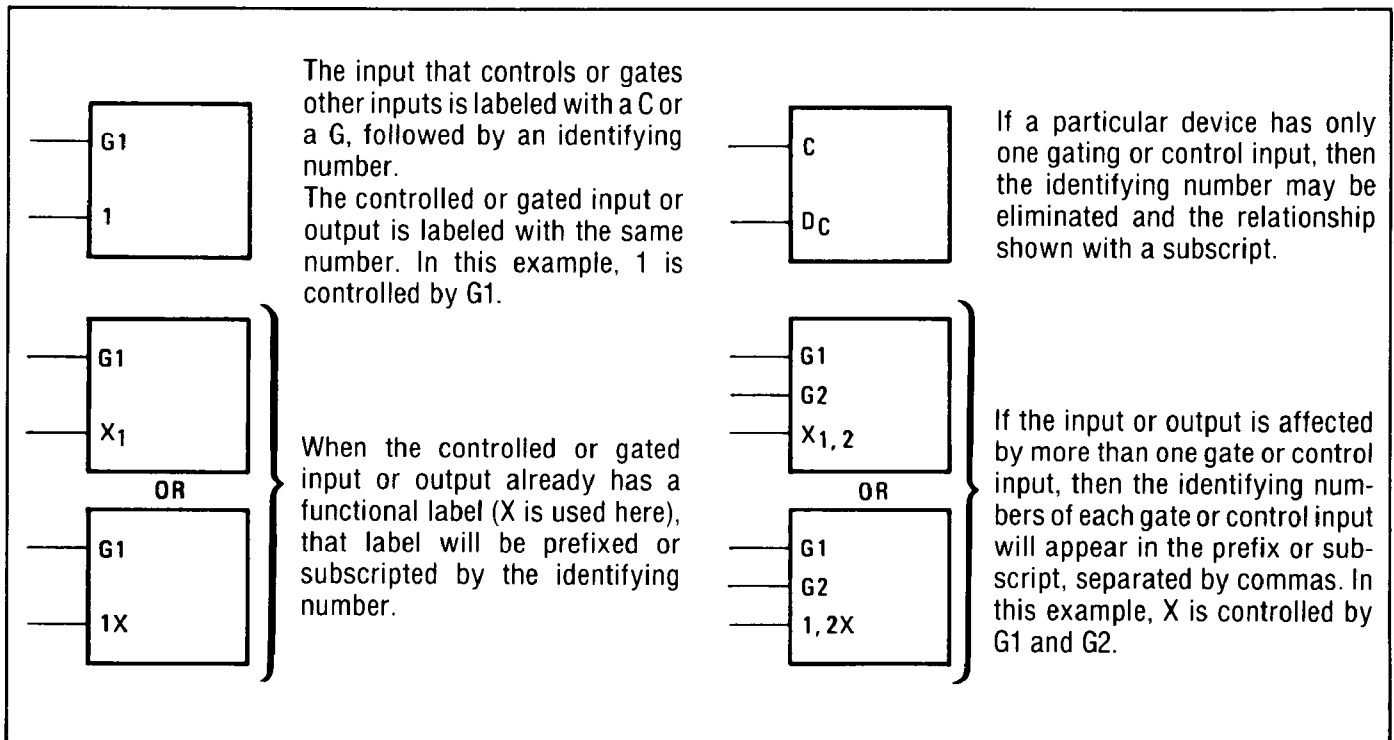
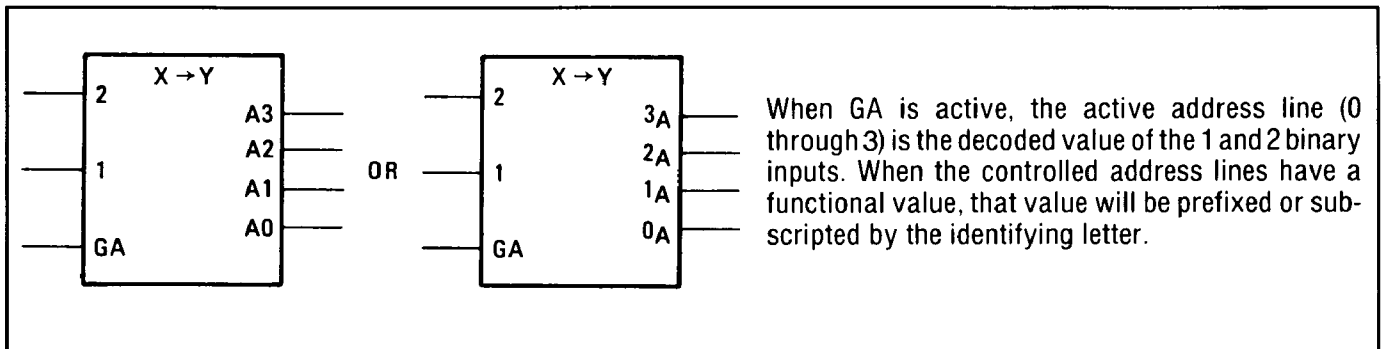

Figure 8-104. AND Dependency Notation
Figure 8-105. Address Dependency Notation: Coder Example Using Alpha Characters (letters)
**Dependency Notation.** Dependency Notation simplifies symbols for complex integrated circuit elements by defining the interdependencies of inputs or outputs without actually showing all the elements and interconnections involved (see Figures 8-104 through 8-106). The following examples use the letter A for address, C for control, G for AND, V for OR, and F for free dependencies. The dependent input or output is labeled with a number that is either prefixed (e.g., 1X) or subscripted (e.g., X1). They both mean the same thing. Note that many times a controlled line may already be labeled with a number that indicates input or output weighting (for example, in a coder). In this case, the controlling or gating input will be labeled with a letter (see Figure 8-105).